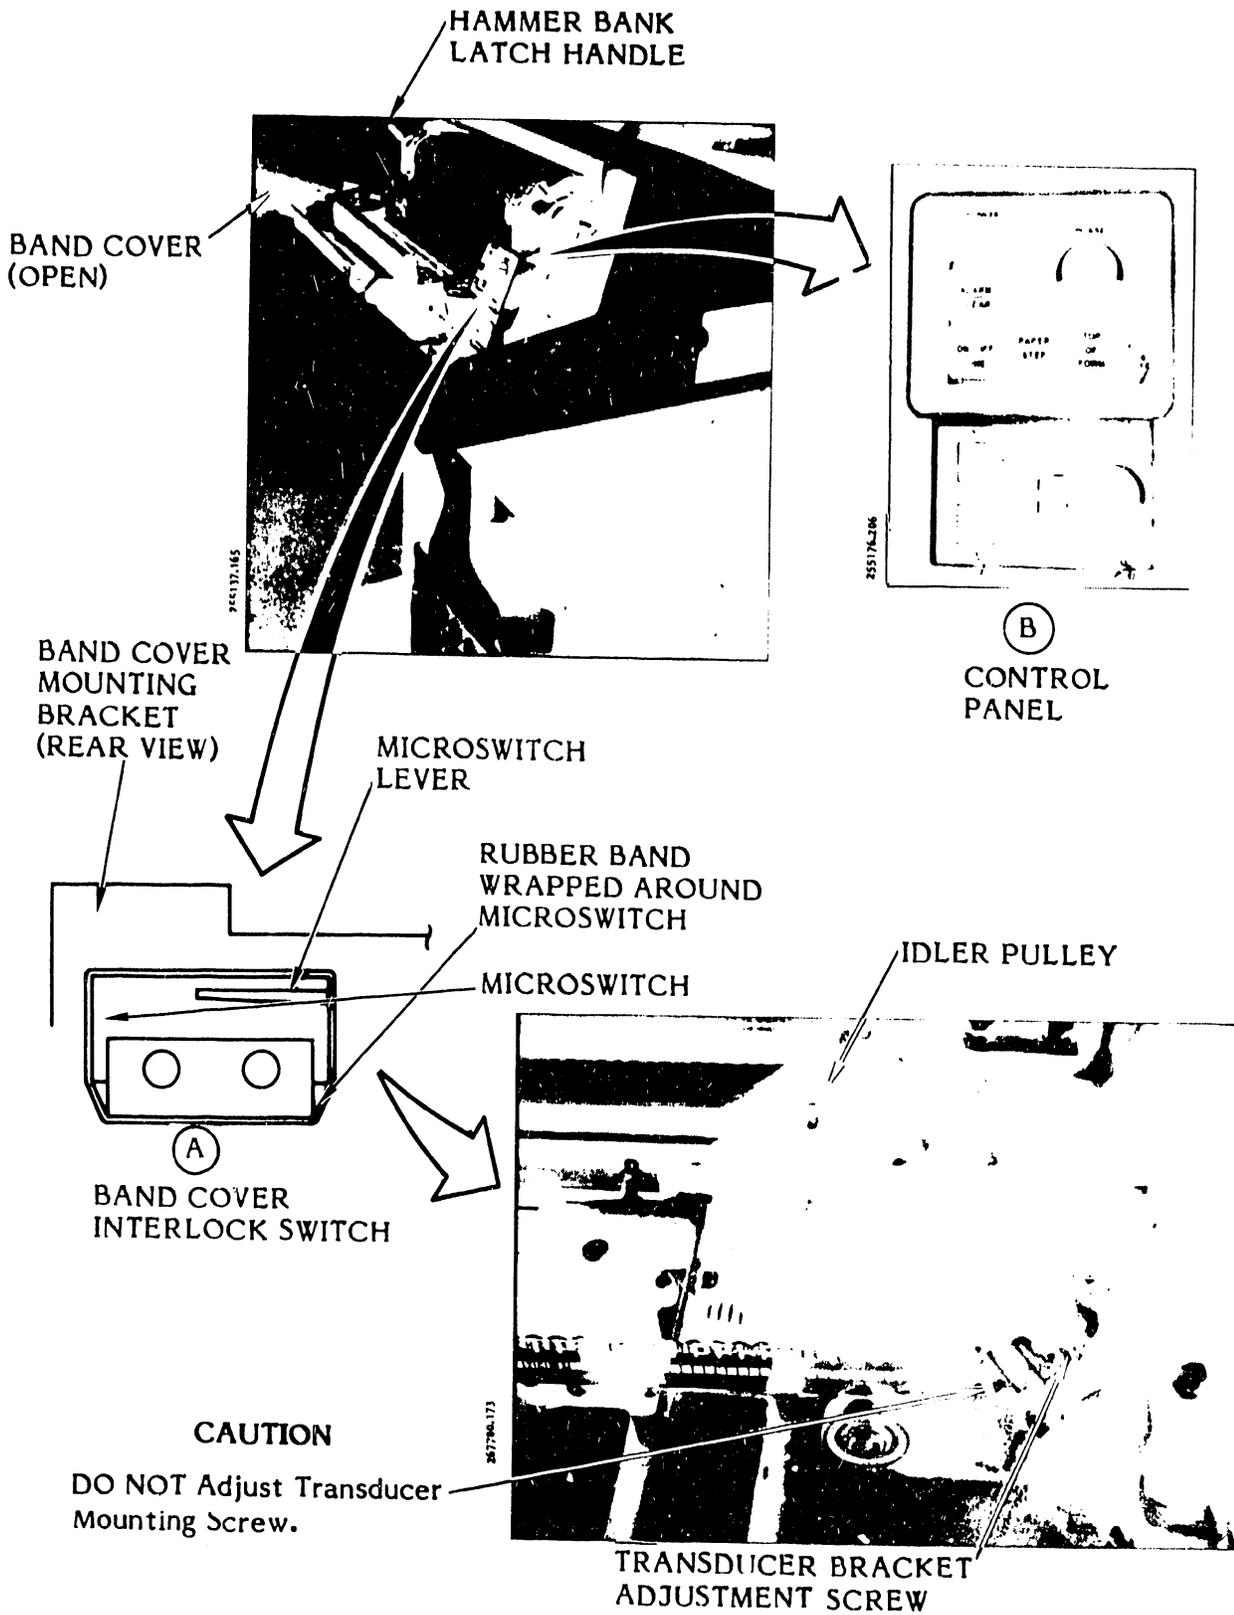

Figure 3-70. Transducer Phasing Adjustment
**3.6.18 Transducer Phasing Adjustment (Figures 3-70, 3-71)**
- y. Remove the rubber band from the band cover interlock switch (see figure 3-70).